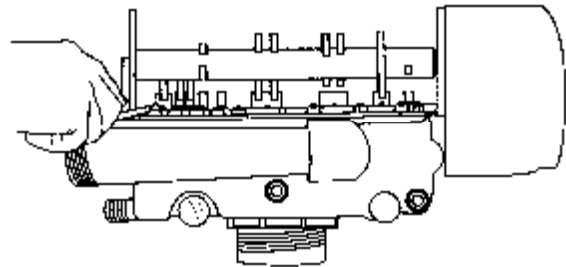

Figure 8
3. Remove cover and with screwdriver, relieve tank pressure by pushing open valve No. 7 (rear flapper on control as shown (Figure 8).